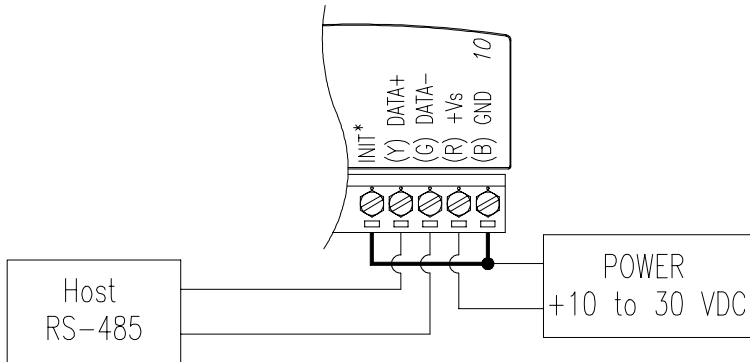

Figure 2-3 *Grounding the INIT* Terminal*
- Power the ADAM module on while shorting the INIT* and GND terminals (See Figure 2-3).